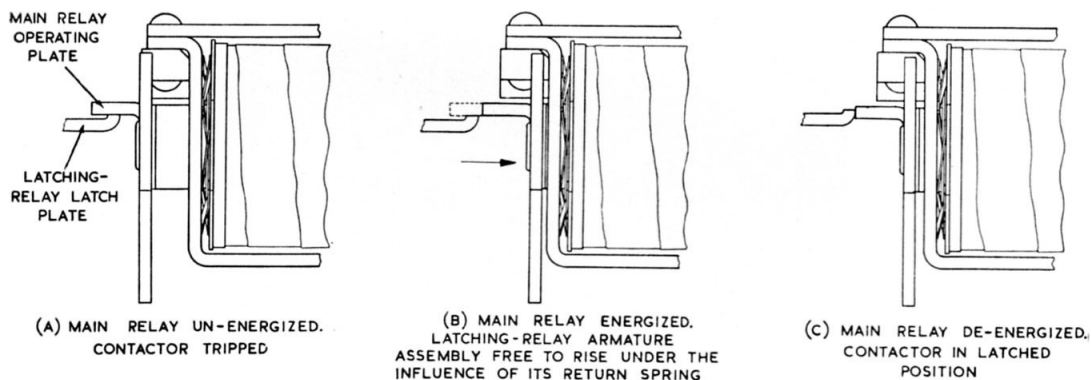

Fig. 3. Details of latching mechanism
4. The operation of the latching mechanism is shown in fig. 3, with A the position of the plates when the main relay coil is un-energized. When the main relay armature reaches its fully operated position, the resulting latch clearance allows the latching relay armature to rise under the influence of its return spring (B). The latching plates are now so disposed that when the main relay is de-energized, its